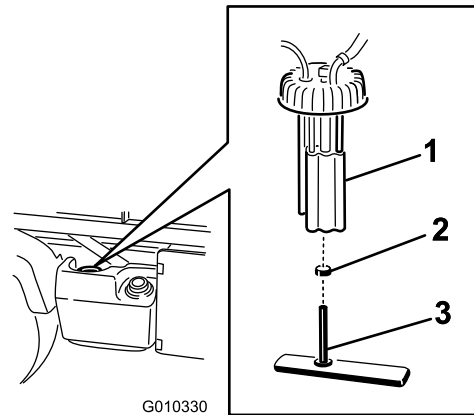

Figure 39
2. Unplug the wire-harness connectors from the fuel pump (Figure 39).
3. Loosen the hose clamp and disconnect the fuel line from the fuel-pump cap (Figure 39).
4. Remove the fuel-pump cap from the top of the fuel tank (Figure 39).
5. Remove the fuel-pump assembly and the fuel filter from the tank (Figure 39).
7. Remove the hose from the fitting (Figure 39).